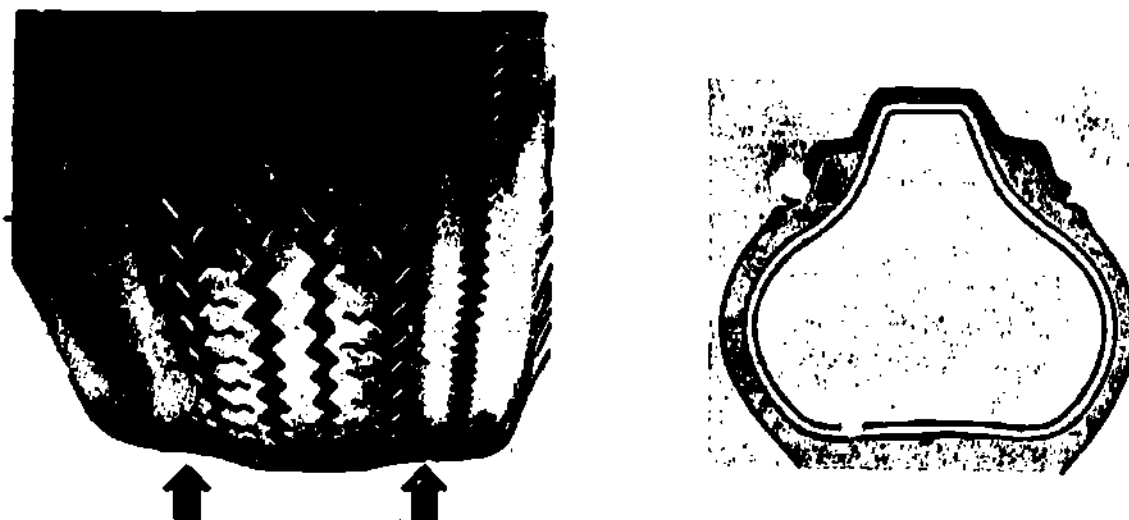

Fig 1-9. Underinflated tire on road and showing wear.
- (1) **Deflation.** For the purpose of air pressure adjustment, tires should not be deflated during or immediately after operation. Tires generate heat during operation. This causes the air in the tire to expand, thus increasing air pressure. Tires that are deflated while hot could be dangerously underinflated when the tire cools off.
- (2) **Underinflation.** Tires that are underinflated cannot be expected to carry the load they were designed for without causing harm to the tire. This is because the tire will not make proper ground contact (A, fig 1-9). Underinflation will cause more heat to be generated which weakens the cords, scuffs the tread edges, and causes uneven tire wear (B, fig 1-9).